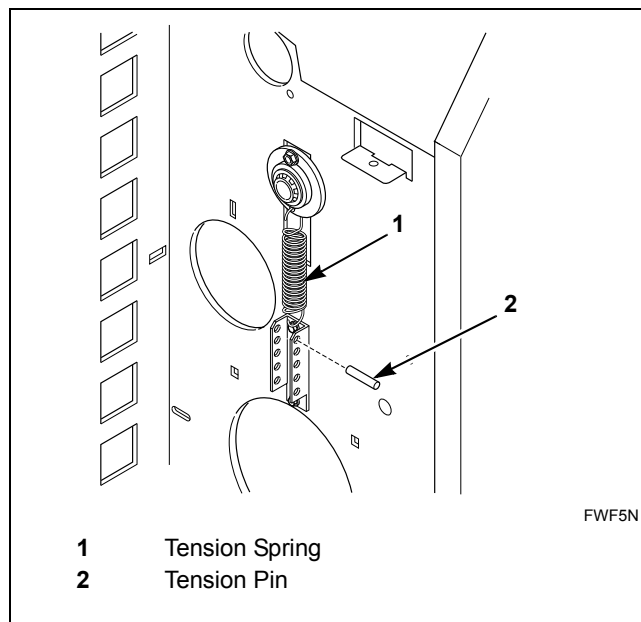

Figure 34
4. Unhook the return ribbon tension spring from the tension pin on each side of finisher. Refer to *Figure 34*.